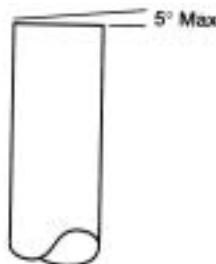

Fig. 2
5. Cut hose to the calculated cut length. End must be square ($\pm 5^\circ$). See Fig. 2.